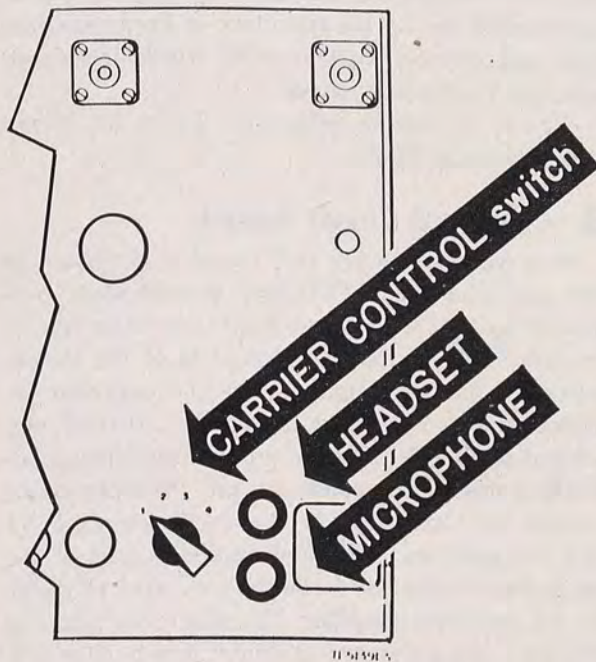

Figure 8. CARRIER CONTROL switch, HEADSET, and MICROPHONE, Radio Transmitter T-14(\*)/.
(11) Carrier control switch (fig. 8). A four-position switch determining how the carrier is to be controlled.
(12) Headset and microphone jacks (fig. 8).